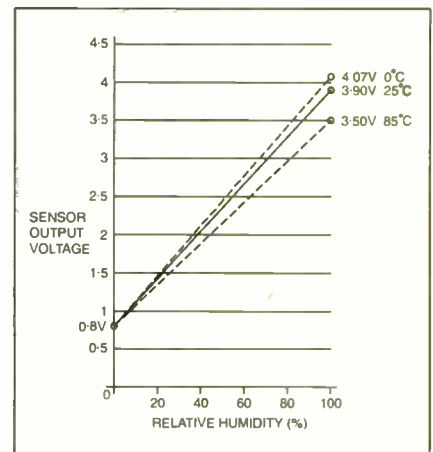

Fig. 2. HIH3605 output voltage for 0% to 100%RH.
Block diagrams of the interrupt logic for the PIC16F87x and PIC16x84 families are shown in Fig.2
3.90V for 0%RH to 100%RH at 25°C. The change in this span with temperature is small enough to be ignored for this project, see Fig.2. For example, the 100%RH value drops to 3.50V at 85°C which is a higher temperature than likely to be encountered with this meter. But automatic temperature correction is a simple matter for high temperature applications.